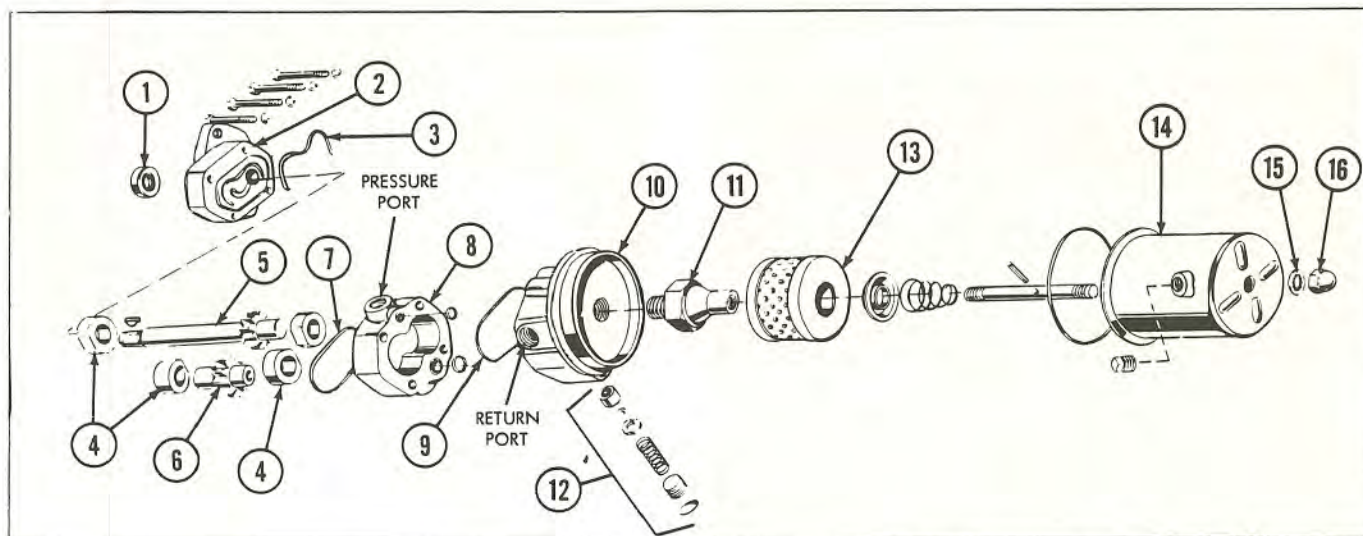

Fig. 12 - Wooster Power Steering Pump - Identification and Sequence of Parts
Refer to Fig. 12 and proceed, as follows:
If the gears or bearings are damaged, check the center housing, No. 8, Fig. 12, which will probably be damaged. If this is the case, it will be necessary to replace the complete pump, because the center housing is not available in parts.
To assemble the Wooster pump, inspect all parts for wear or damage; refer to Fig. 12 and proceed, as follows:
5. Place center housing, No. 8, with the oil passages down and the pressure port 90° counterclockwise from the return port, as shown in Fig. 12.